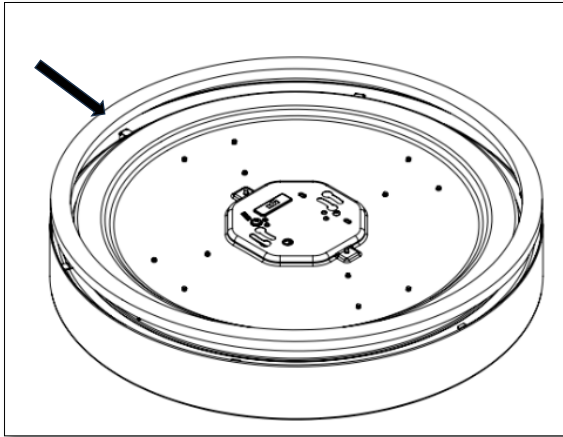

Figure 4
5. Remove the cardboard fillers from the back of the fixture. (figure 4)